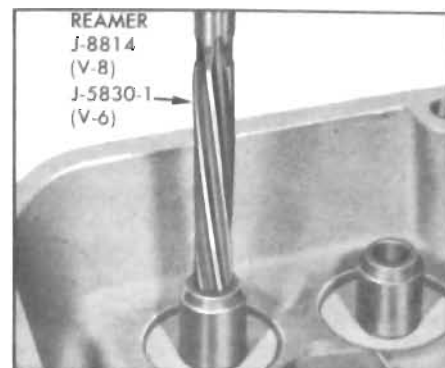

Figure 2-67—Reaming Valve Guide
8. If valve stem has too much clearance in its guide, the guide should be reamed to .004" over-size using J-5830-1. The Parts Department stocks .004" over-size valves for replacement purposes. See Figure 2-67.